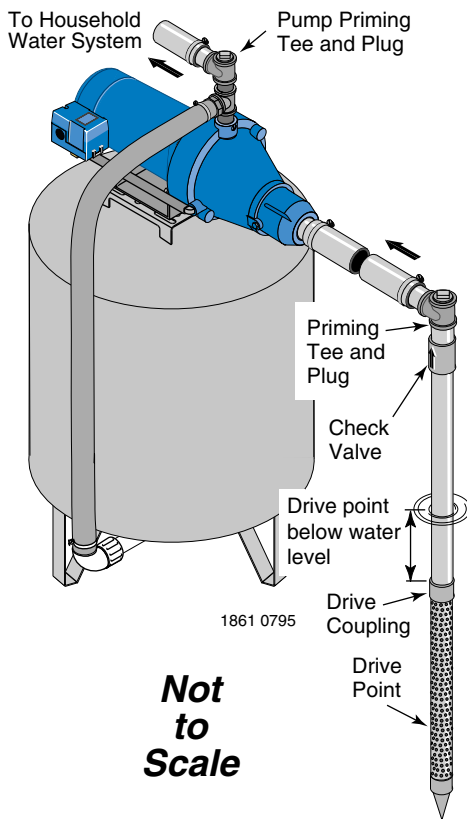

Figure 1: Driven Point Installation
WELL POINT (DRIVEN POINT) INSTALLATION (Figure 1)
- Step 3. Use the fewest possible fittings (especially elbows) when connecting the pipe from the well point to the pump suction port. The suction pipe should be at least as large as the suction port on the pump (include a check valve if your pump is not equipped with one – see Figure 1). Support the pipe so that there are no dips or sags in the pipe, so it doesn’t strain the pump body, and so that it slopes slightly upward from the well to the pump (high spots can cause air pockets which can air lock the pump). Seal the suction pipe joints with teflon tape or a teflon based pipe joint compound. Joints must be air- and water-tight. *If the suction pipe can suck air, the pump cannot pull water from the well.* If one well point does not supply enough water, consider connecting two or three well points to one suction pipe.